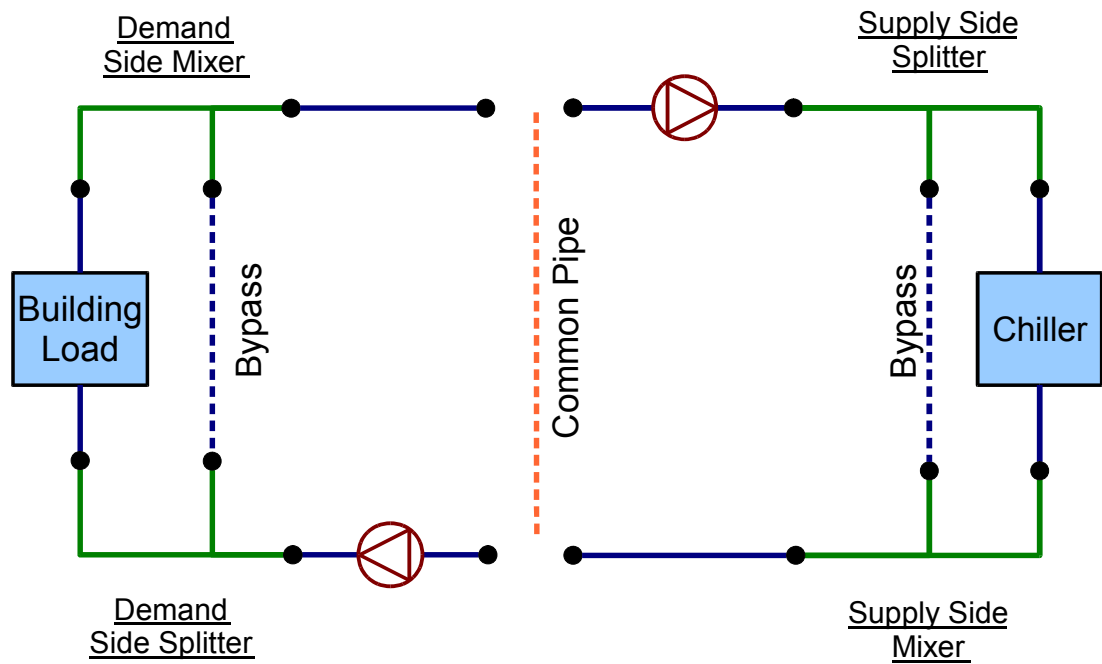

Figure 10 - Complete EnergyPlus line diagram
8. An EnergyPlus diagram can be generated by using all the identified components. The complete schematic is shown in Figure 10.